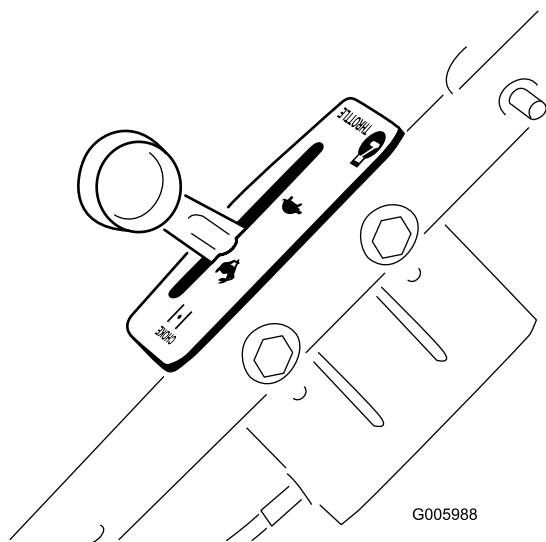

Figure 9
- A. Set the throttle control to the Fast position (Figure 9).